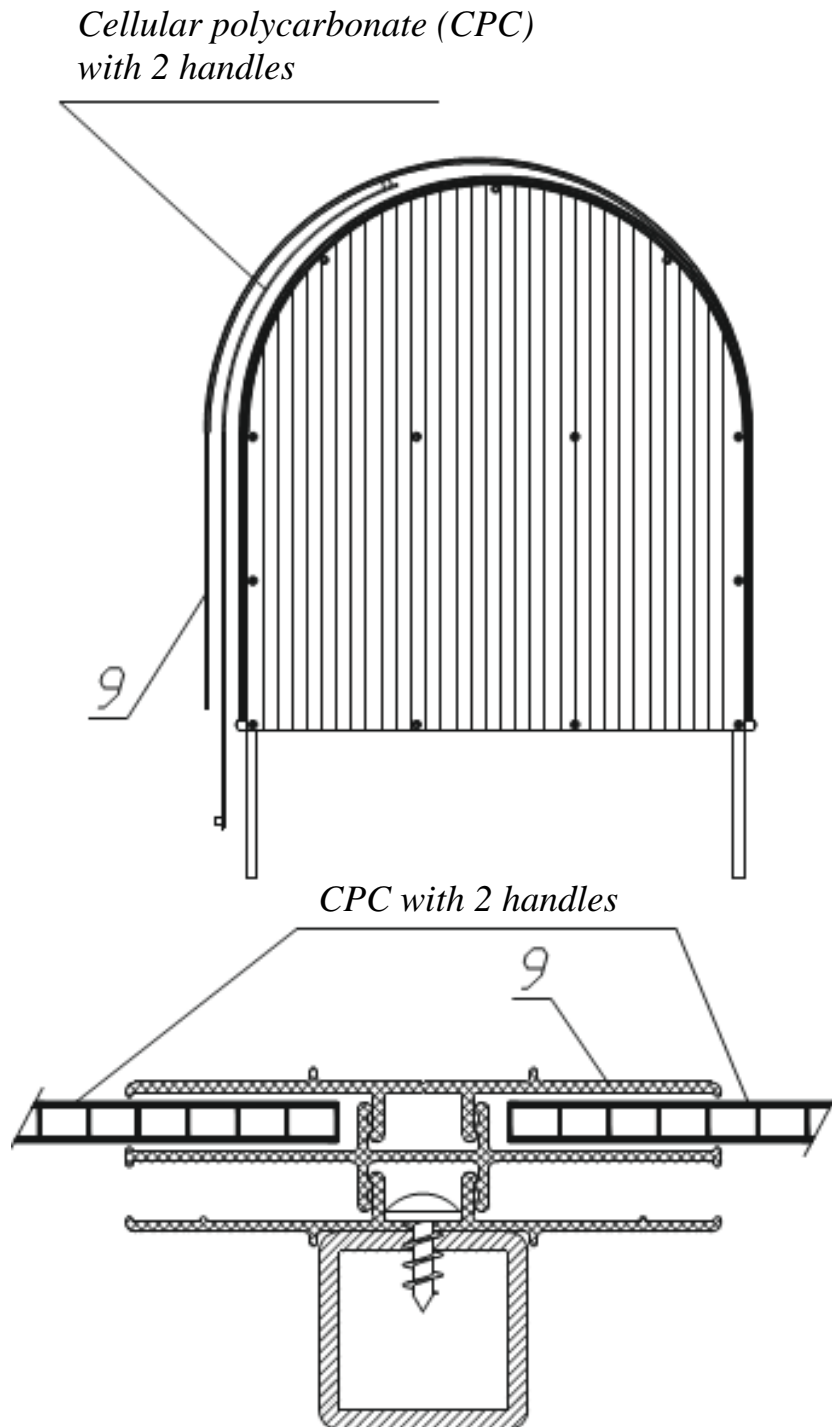

Fig. 13
6.1. The polycarbonate sheet with two handles-planks is inserted into the upper groove of the profile (Fig. 13, 14).